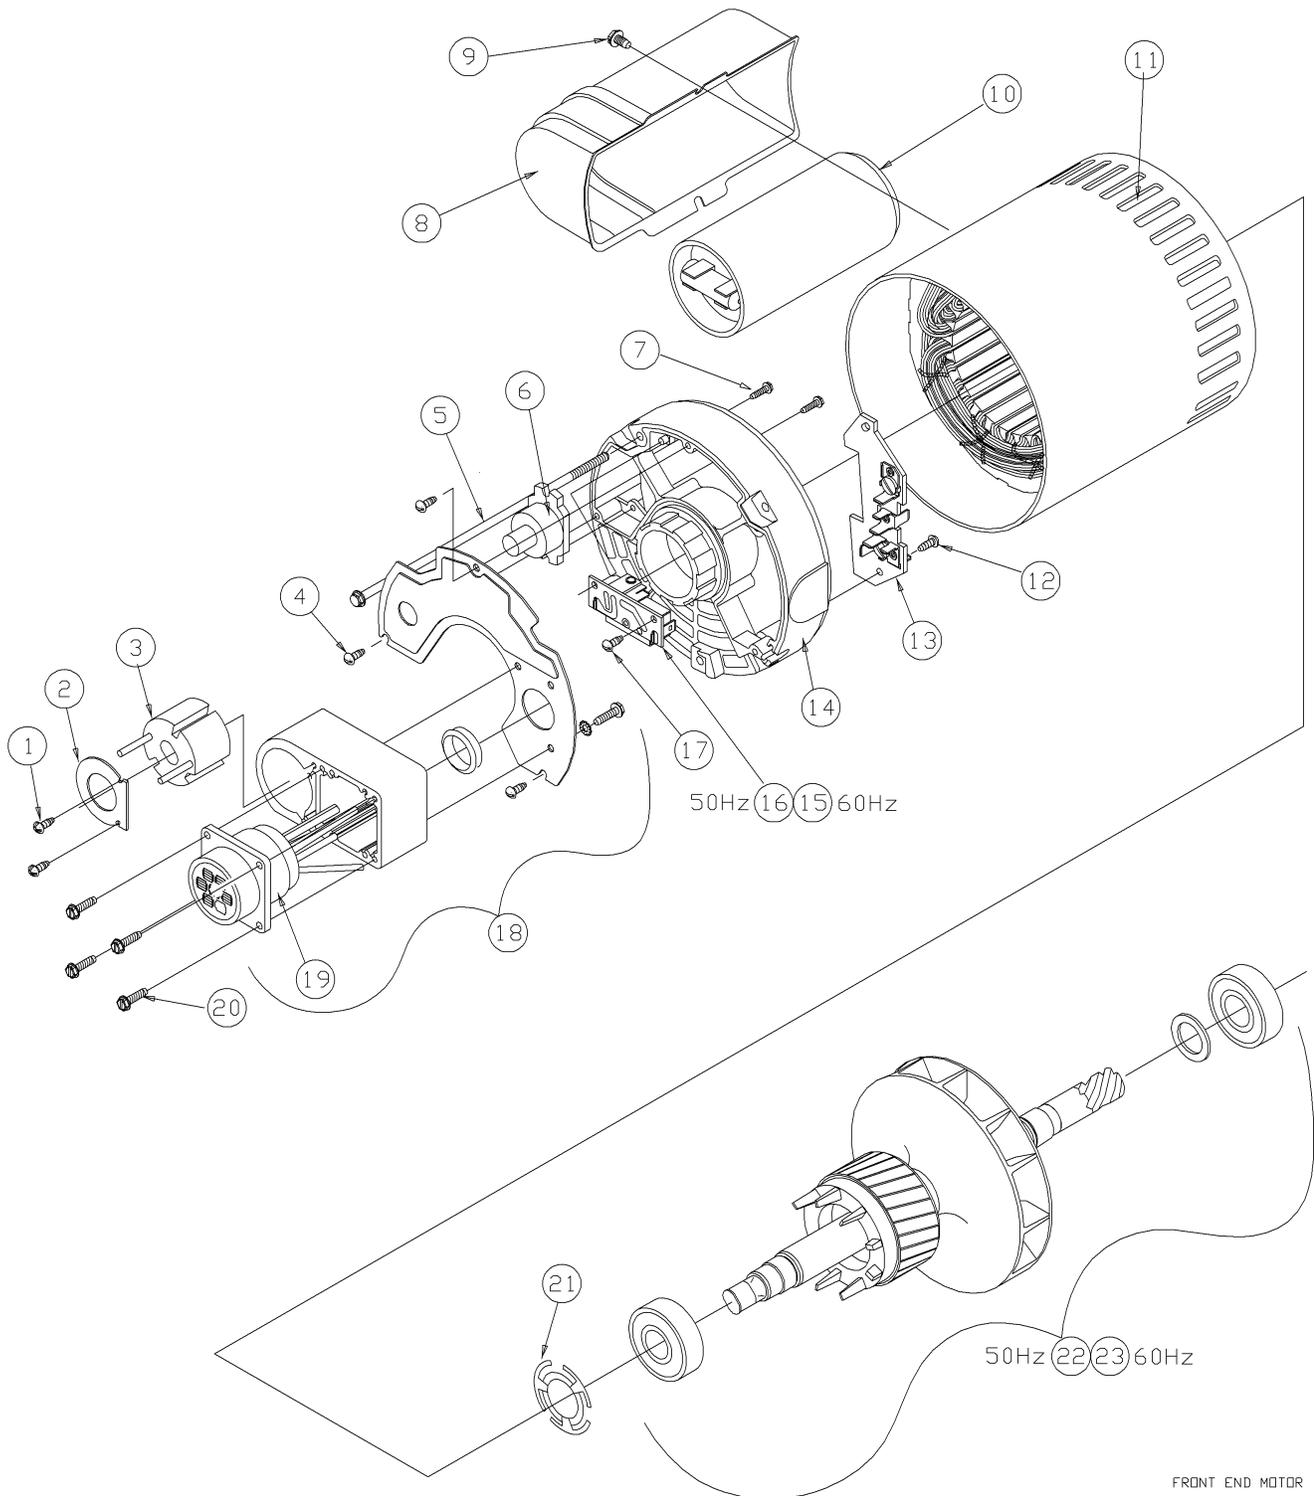

Figure 9, Front End Gearbox Motor - Exploded View
3. After removing the thru-bolts, the motor frame should come free of the gearbox. The rotor (items 22 & 23) will either remain with the motor or with the gearbox. Remove the rotor and the wave spring (item 21) at the top rotor bearing.
5. Place the wave spring on the rotor's upper bearing, and install the motor's frame over the rotor. Ensure that the wave spring and upper rotor bearing are fully inserted into the recess in the top endplate of the motor. It may be necessary to remove the brake cover and rotate the inner ring of the brake assembly (Figure 9, item 3) so that it aligns with the rotor shaft.
- a. Unsolder the wires on the three terminals of the thermal overload device (item 6).
- b. Remove the two mounting screws (item 7) and then remove the overload device.
- a. Remove the two screws (Item 12) that secure the terminal board (item 13) to the endplate.
10. Place the wave spring on the rotor's upper bearing, and install the motor's frame over the rotor. Ensure that the wave spring and upper rotor bearing are fully inserted into the recess in the top endplate of the motor. It may be necessary to remove the brake cover and rotate the inner ring of the brake assembly (Figure 9, item 3) so that it aligns with the rotor shaft.